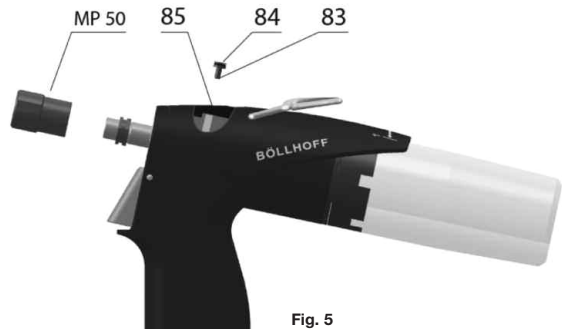

Fig. 5
- 2- Unscrew the drain screw (fig.5 - pos. 83) with the O-ring (fig.5 - pos.84) using the socket screw key No.3. Do not take the hydraulic seal (fig.5 - pos.85) out !
- 10- Screw back the drain screw (fig. 5 pos. 83)